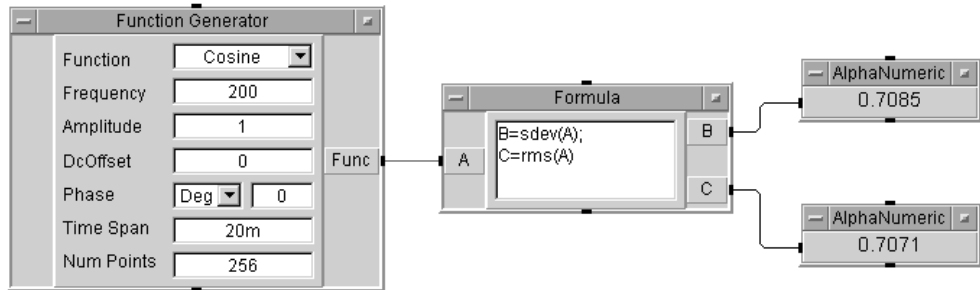

Figure 118 VEE Functions Using One Formula Object
- 9 Run the program. It should look like Figure 118.